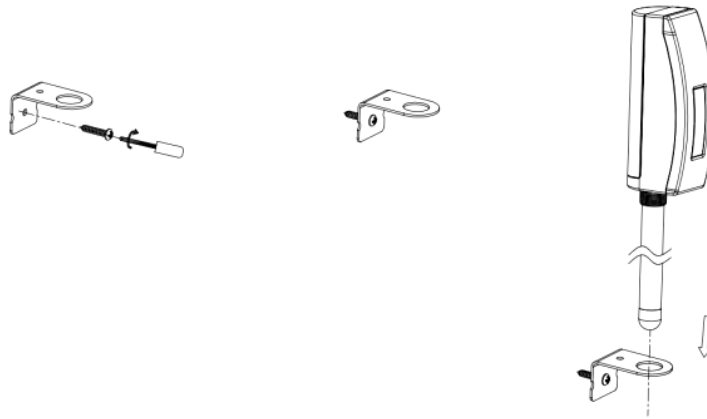

Figure 3
- Use a screw (screw ST D3.2*M2.0*6) to fix the bracket to the wall, then pass the probe through the hole in the bracket as shown in Figure 3: